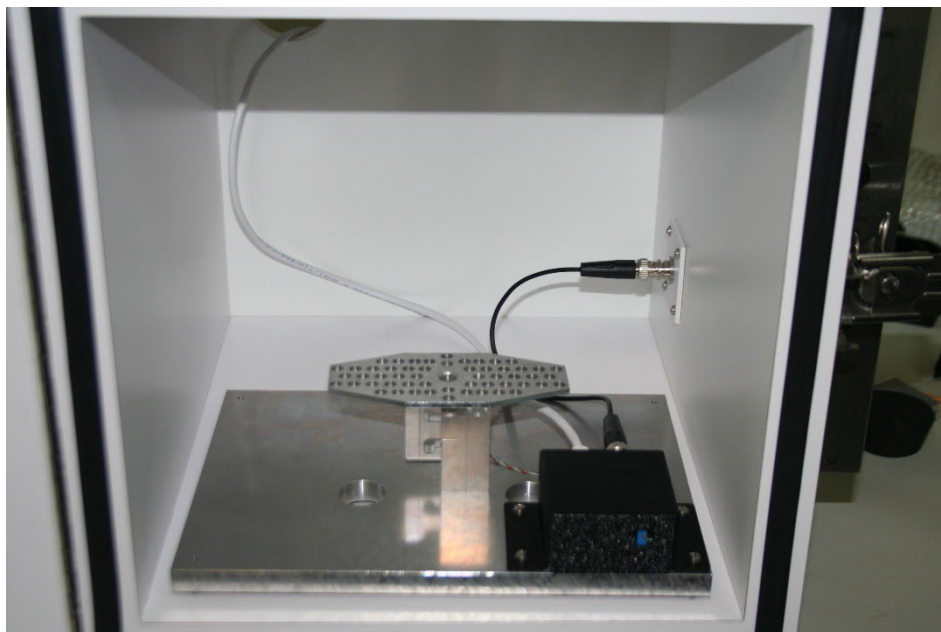

Figure 8 Installing the Load Cell Sensing Assembly
2. Refer to Figure 8 and insert the Load Cell Sensing Assembly. Center the assembly from left to right as much as possible and place it directly under the speaker (towards the front of the cabinet). Connect the BNC to BNC and Cat5 ethernet cables to the load cell circuit.